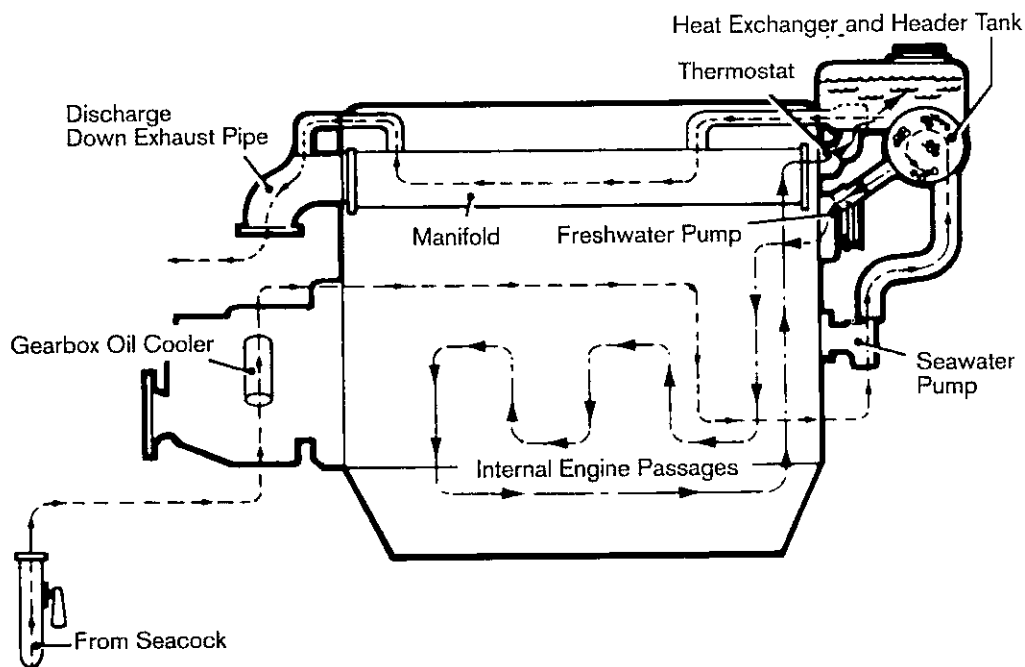
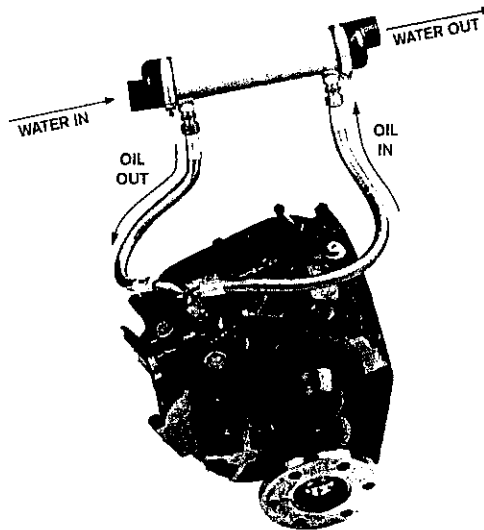

Fig. 8. Engine and gearbox cooling circuit
Fig. 9. Oil cooler connections PRM1000D
**CAUTION:** Failure to correctly install an oil cooler into the lubrication circuit can result in damage to the gearbox see figs 8, 9, 10, 11 and 12 for correct circuit. After a gearbox failure it is extremely important to flush the cooler and hoses completely to remove any contamination. Failure to do so could result in the new/repared gearbox failing prematurely.
The gearbox oil cooler is normally mounted on the gearbox adaptor flange or the bulkhead of the boat, and then connected into the cooling system on the engine; one method of arranging the engine and gearbox cooling circuit is shown at Fig. 8.
**CAUTION:** Remove the "Redcap" plugs from the valve block and gearbox prior to the installation of the cooler. Connect suitable hoses to the connections on the oil cooler and valve block, which can then be incorporated into the engine cooling system as outlined at Fig. 8.
Remove the "Redcap" seals from the valve block and, using suitable hoses, connect the valve block outlet to the oil cooler inlet and the cooler outlet to the valve block inlet as shown at fig. 9, then plumb it into the engine cooling system as outlined at fig. 8.
The oil cooler can now be connected to the engine cooling system as outlined at fig. 8.